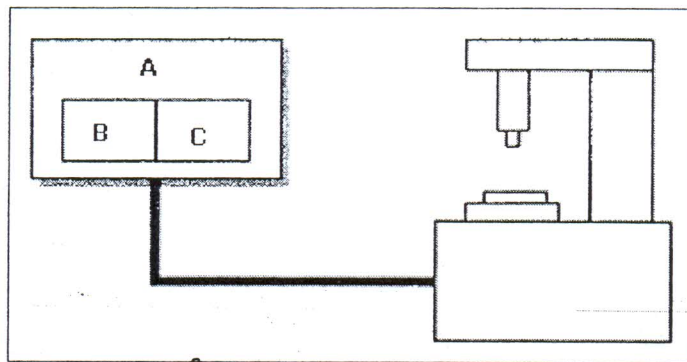

Figure 9: Diagram of NC machine
- (b) State **two (2)** selection criteria to consider when choosing level sensor. (2 marks)
- (c) **Figure 9** below shows the diagram of a hardware configuration of NC machine
- iii. Describe **three (3)** advantages of using Computer Numerical Control (CNC) in automation system